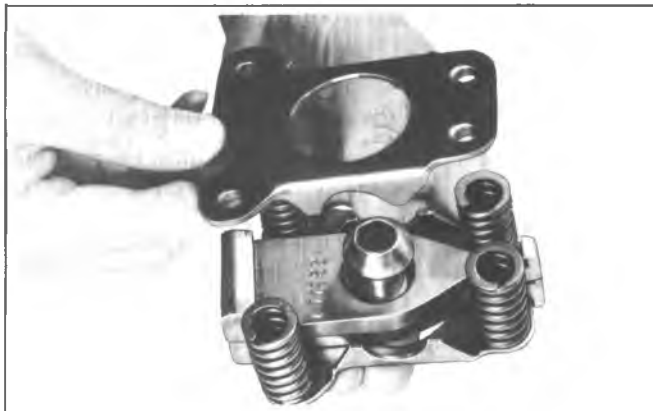

Fig. 12D--Installing Spring Pack Compression Tool (Corvette)
17. **On Corvette** install Tool J-22311 to compress clutch pack, secure pack with 1/4" bolts as shown in figure 12D. Partially install pack then remove bolts and complete pack installation. Remove tool.